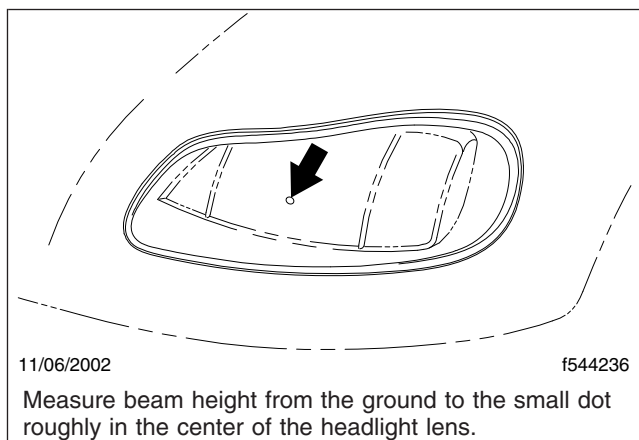
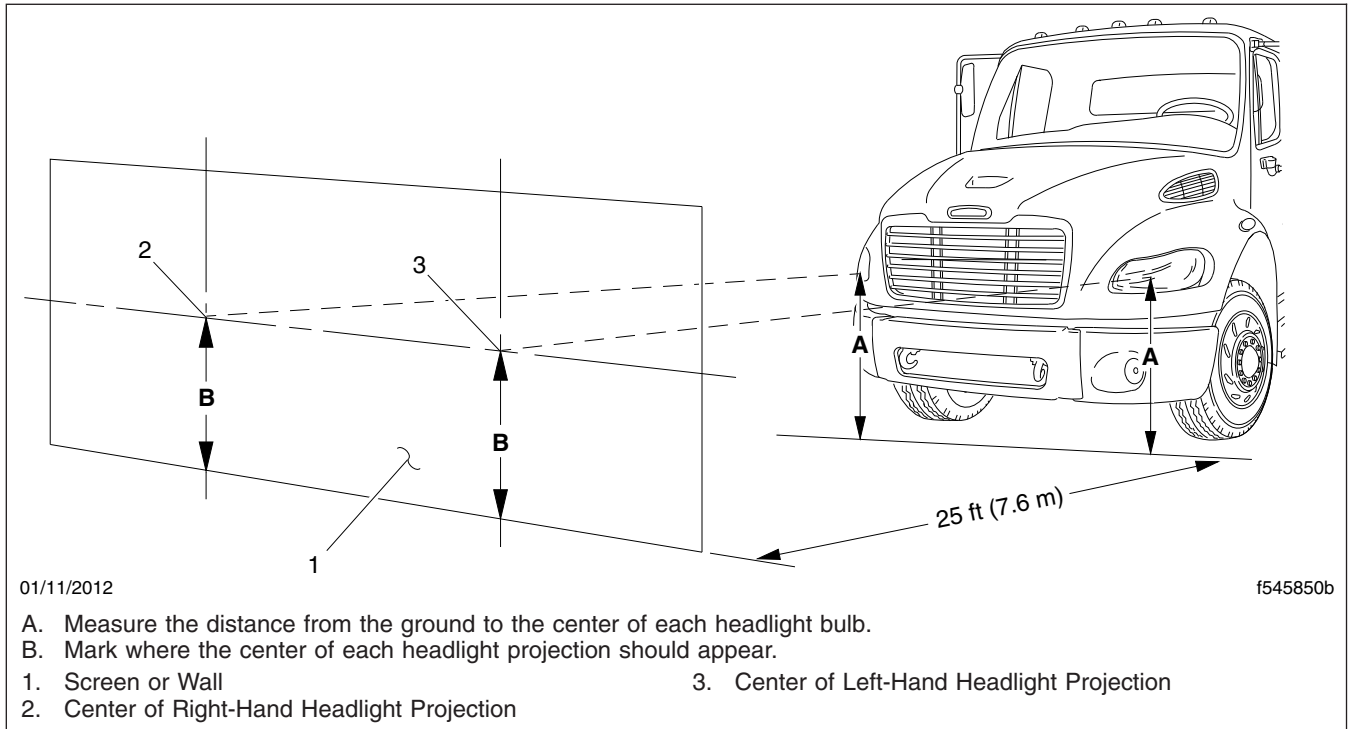

Fig. 18.1, Headlight Beam Height Adjusting Dot
Fig. 18.2, Headlight Aiming Screen/Wall
2. Each headlight has a height adjusting dot. See Fig. 18.1. Measure the distance from the ground to the height adjusting dot on each headlight. Note those distances. See Fig. 18.2, Ref. A.
3. Mark the vertical distances found in step 2 on the screen or wall, directly in front of the headlights. These marks represent the desired locations of each headlight bulb center in the following steps. See Fig. 18.2, Items 2 and 3.